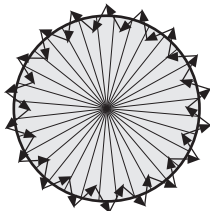

FIG.22
4. Walk from outside across to the detection pattern until LED turns on for approx. 2 secs indicating the movement has been detected (See FIG.22).